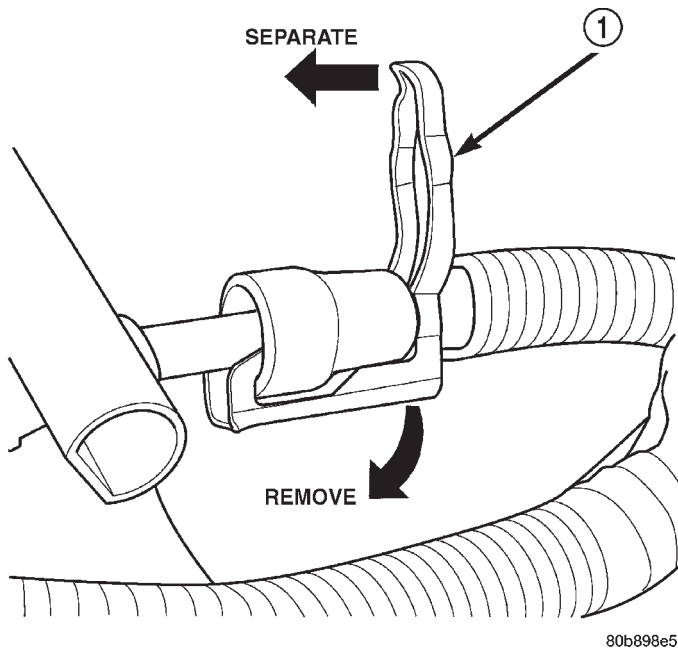

Fig. 19 Latch Clip—Type 2
(7) **Latch Clips:** Depending on vehicle model and engine, 2 different types of safety latch clips are used (Fig. 18) or (Fig. 19). Type-1 is tethered to fuel line and type-2 is not. A special tool will be necessary to disconnect fuel line after latch clip is removed. The latch clip may be used on certain fuel line/fuel rail connection, or to join fuel lines together.
(b) Type 2: Separate and unlatch 2 small arms on end of clip (Fig. 19) and swing away from fuel line.